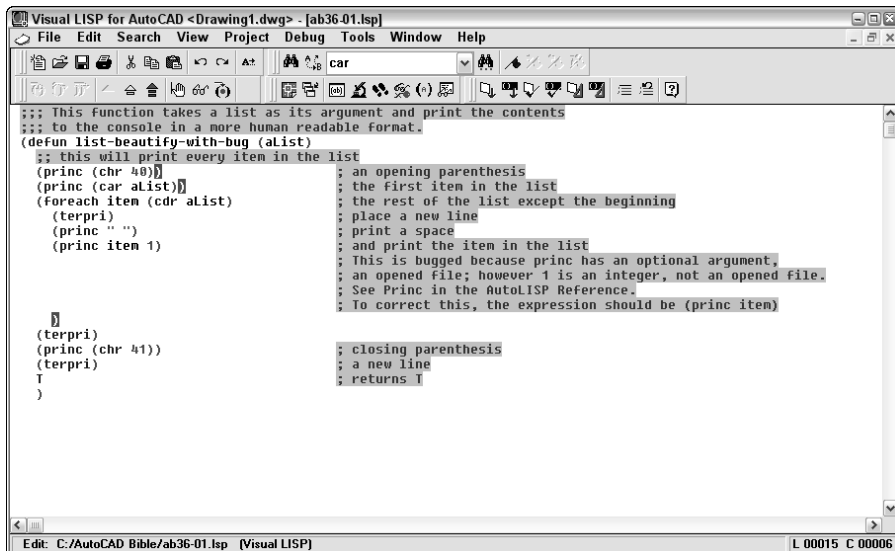

Figure 36-3: Your code after placing three break points.
9. Place another break point after `(princ (car alist))`. Finally, place a third break point after the closing parenthesis on the line that follows `(princ item 1)`. Your code should look like Figure 36-3.